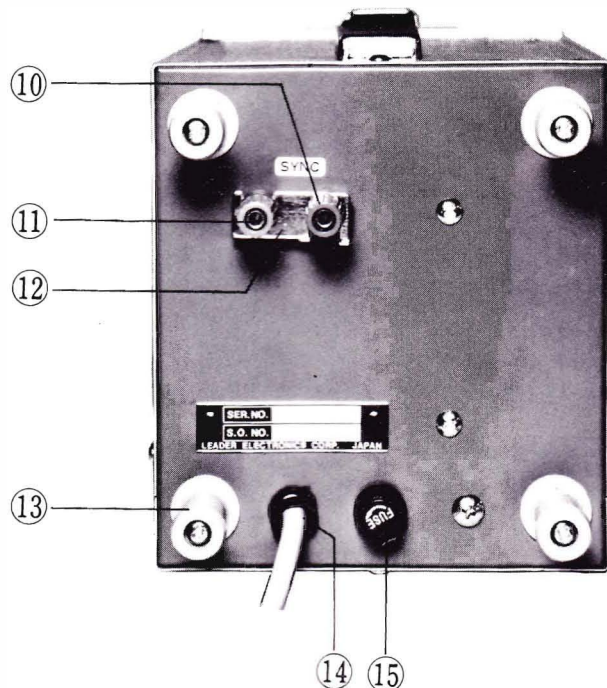

Fig. 1-2 Rear panel functions.
⑨ Frequency dial: Marked in Hz; 1 to 10; actual output frequency depends on the setting of the FREQ. RANGE switches.
1.3.2 Rear Panel, Fig. 1-2:
⑩ SYNC terminals: For connection to an external frequency control source; black terminal is for ground.
⑪ Shorting-link: Normally connected across the SYNC terminals when the synchronizing input signal is not used.
⑫ AC cord hooks.
⑬ AC input cord.
⑭ FUSE holder: For the AC line fuse.